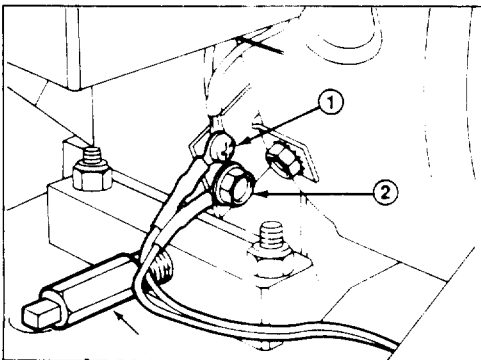

Figure 3
1. Remove phillips head screw from engine bracket, install wire with smaller connector and reassemble to engine bracket (Fig. 3).
2. Insert flange head capscrew through large connector on remaining wire and install in lower hole in engine bracket (Fig. 3).